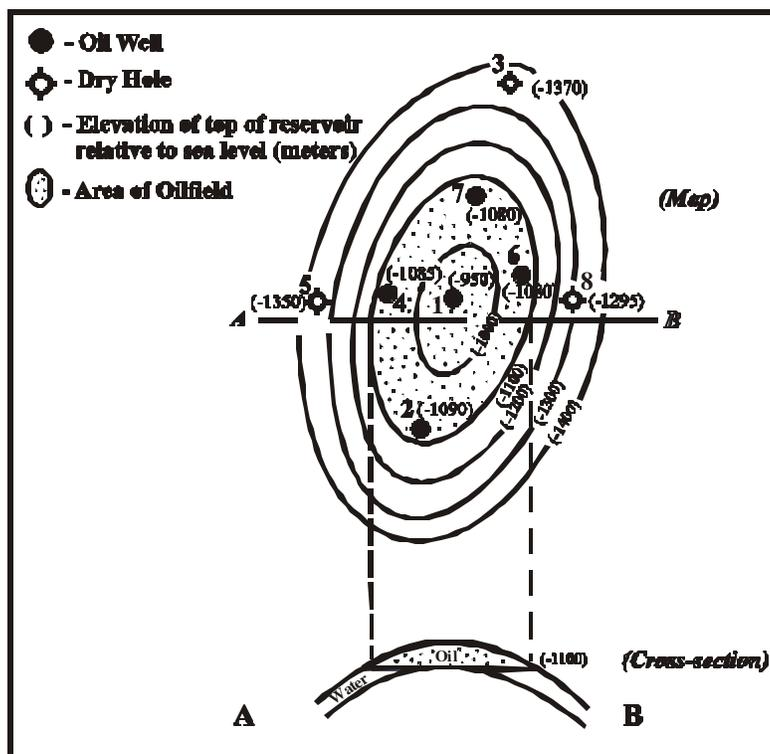

Figure 10.1 -Delineation Drilling Program
Thus far, we have drilled only one well (the discovery well) into the oil field. Seismic data is very helpful in mapping the size of the underground structure, but the only way to be certain of what parts of the structure contain oil is to drill *delineation* or *stepout* wells. Figure 10.1 shows us an example of a delineation drilling program. The first well (the discovery well) was drilled at the very crest of the structure. The wells chronologically numbered 2 to 8 were drilled in strategic locations to further define the extent of the oil reservoir. Each new well added more information about the field. This information was then used in planning the location of the next delineation well until finally there were enough wells to show the limits of the field.
- (1) View the video entitled; “The Hibernia Development Project” (10 minutes).
- (2) Study figure 10.1 and see if you can follow the logic that was used in choosing the locations of wells numbered 2 to 8.
- (3) Oil Spill